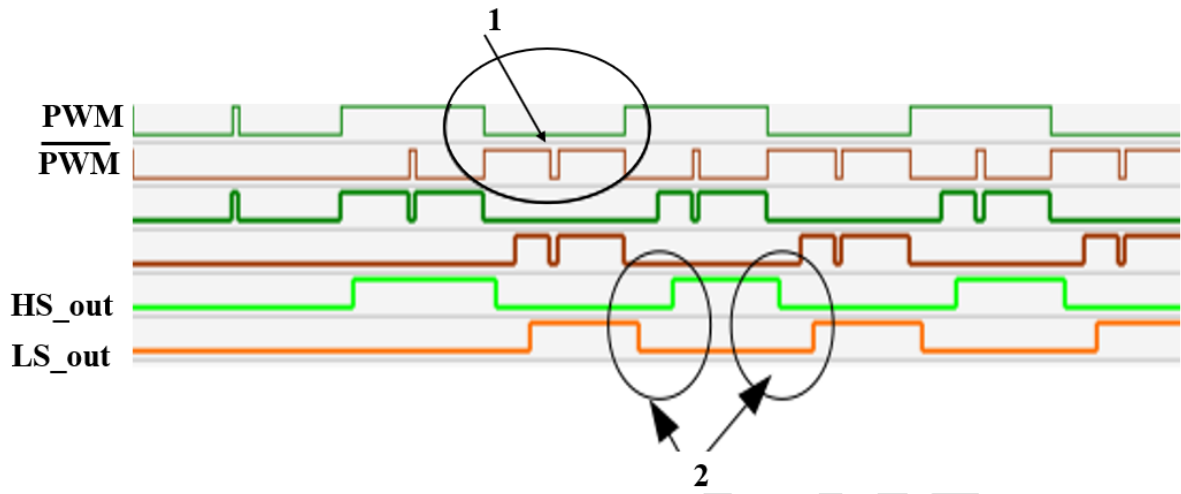

Figure 18 Input and output drivers' signals when 1-clock (20 ns) glitches are present and not dead time of the input signal.
Figure 18 shows the input drivers' signals when glitches with 1-clock (20 ns) duration are present. Also, there is no dead time between the input signals. In the output signal the glitches (1) are removed and the dead time is introduced (2).